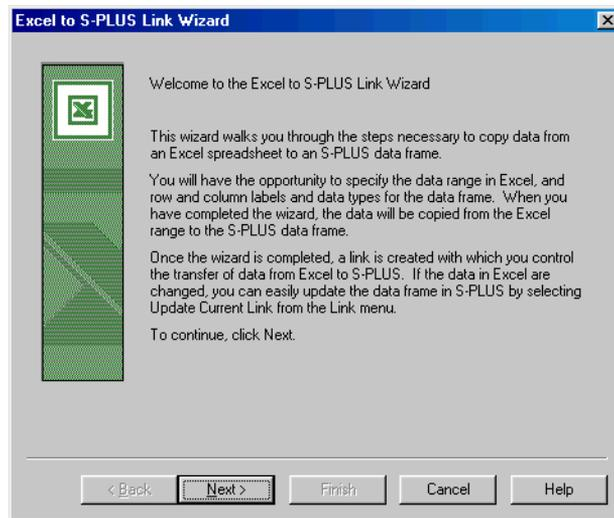

Figure 10.3: *The Excel to Spotfire S+ Link Wizard.*
2. Click the **Excel to Spotfire S+ Link Wizard** button  on the **Excel Sheet** toolbar or choose **Links ► Link Wizard** from the main menu. The **Excel to Spotfire S+ Link Wizard** opens, as shown in Figure 10.3.
2. With the **Data** window displaying your S-PLUS data frame in focus, click the **Spotfire S+ to Excel Link Wizard** button  on the **Data** window toolbar or choose **Link Wizard** from the **Edit** or shortcut menu. The **Spotfire S+ to Excel Link Wizard** opens, as shown in Figure 10.3.